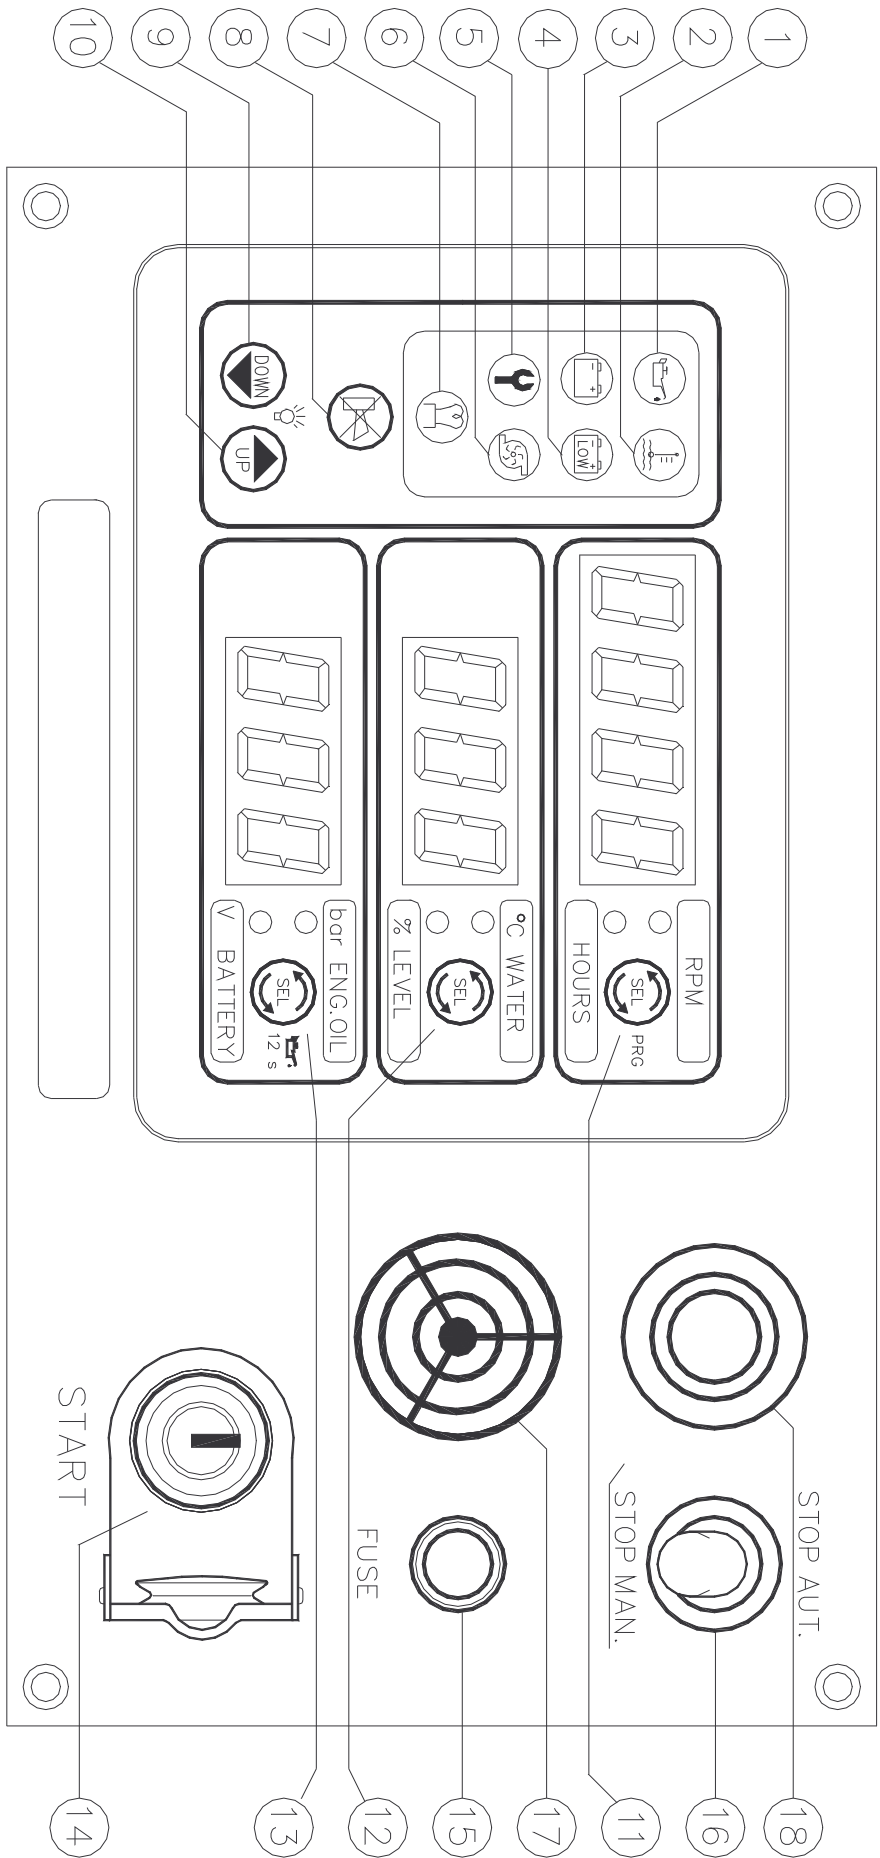

Fig. 1 - CM20/30 panel
4. ALARMS, SIGNALING AND COMMANDS (ref. to fig. 1)